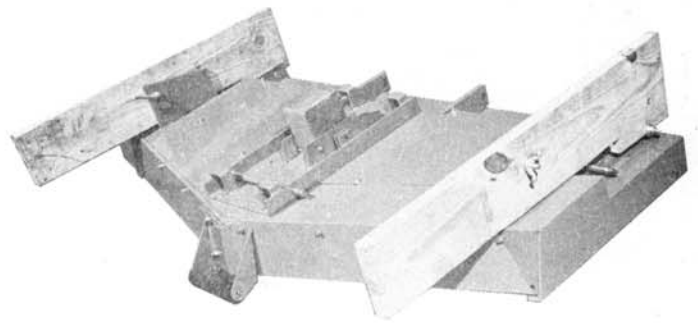

fig 6
7. Remove the shipping blocks. The hardware removed will be used in the installation of the caster wheel supports. **DO NOT DISCARD HARDWARE.** See fig 6.